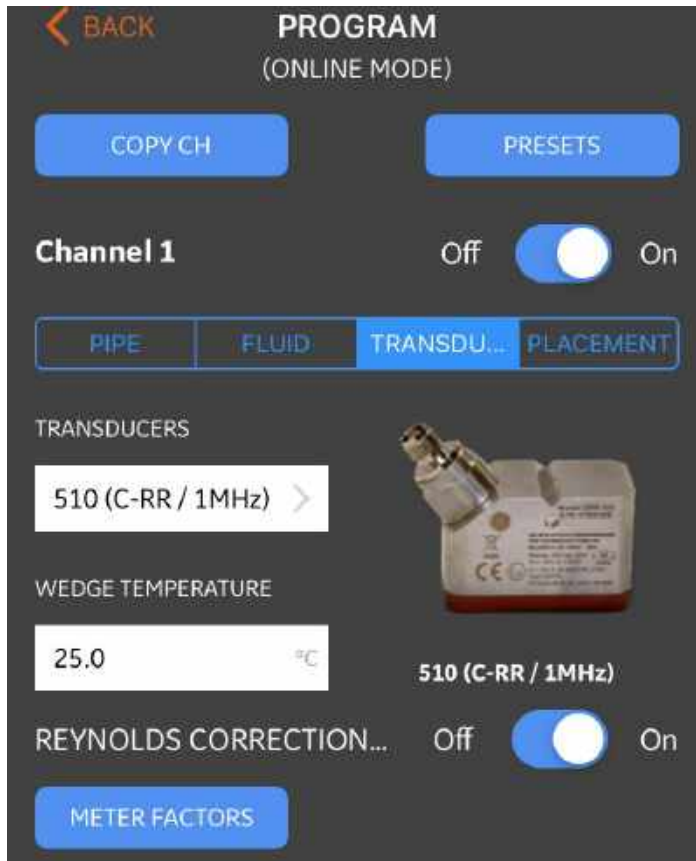

Figure 87: The TRANSDUCERS menu
An example of this menu is shown in *Figure 87* below. See the following sub-sections for the options available in programming the transducers.
To program your transducer parameters, refer to *Figure 87 on page 32* and complete the following steps:
- If you select standard transducer from the drop down, you will need to enter only the *wedge temperature* (see Figure 87). But if you select *other* as your transducer model, few additional parameters will appear on the screen (see Figure 88 on page 33 and you must edit this data with the correct specific information.
The *Reynolds correction factor* can be set to either *on* or *off* (see Figure 87 on page 32. This factor corrects the fluid velocity measured across a diametrical path so that it more accurately represents the average fluid velocity across the entire cross-sectional area of the pipe. The *Reynolds correction factor* should be turned *on* for all clamp-on measurements.
To program the *meter factor*, refer to Figure 87 on page 32 and complete the following steps: